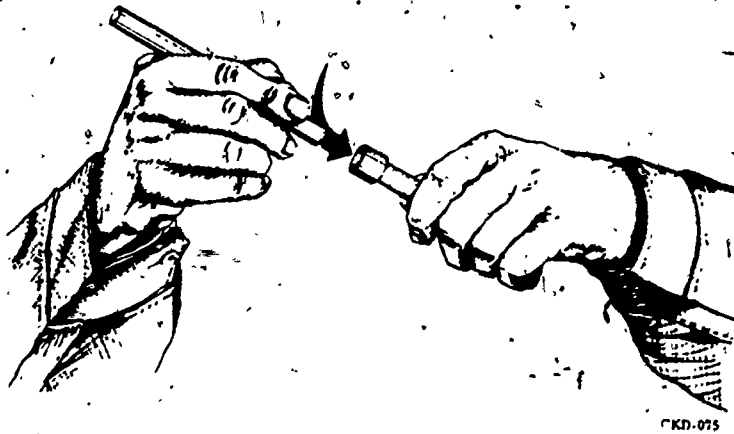

Figure 10. Inserting Tubing
i. Insert one piece of the tubing into the other tubing as illustrated in figure 10.